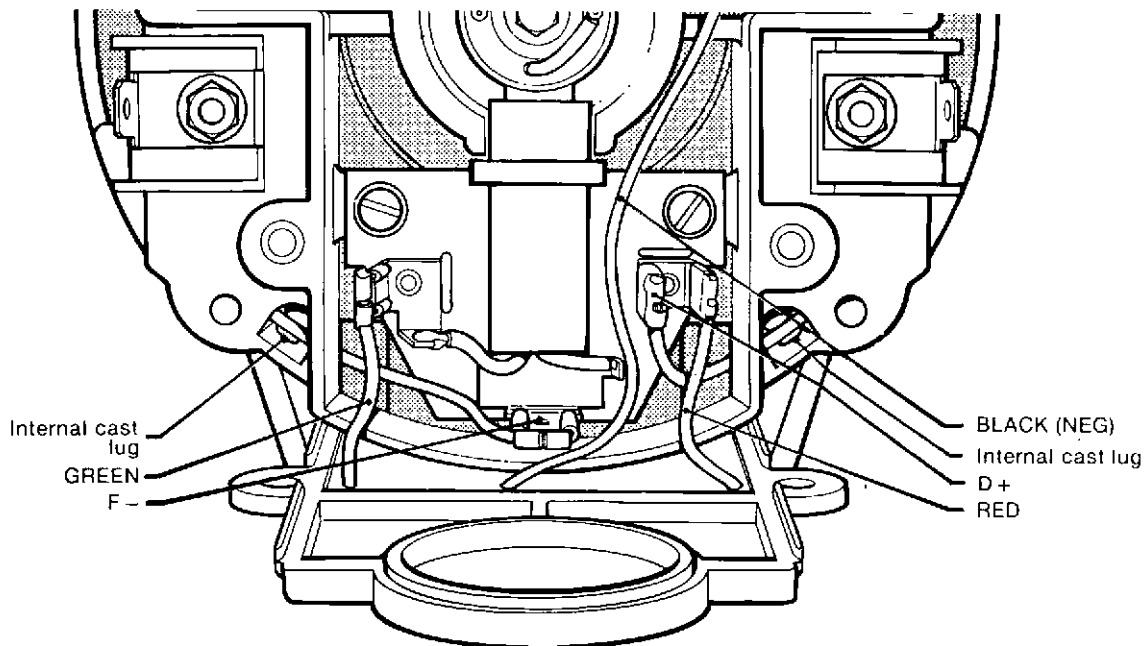

Fig. 3 Regulator connections
7. Connect D+ and F— leads to the Lucar terminals as in fig. 3.
8. After making the connections as in fig. 3, fit the regulator, using two screws and Belleville washers. Tighten the screws evenly to 1.69 Nm (15.0 lbf. inch).